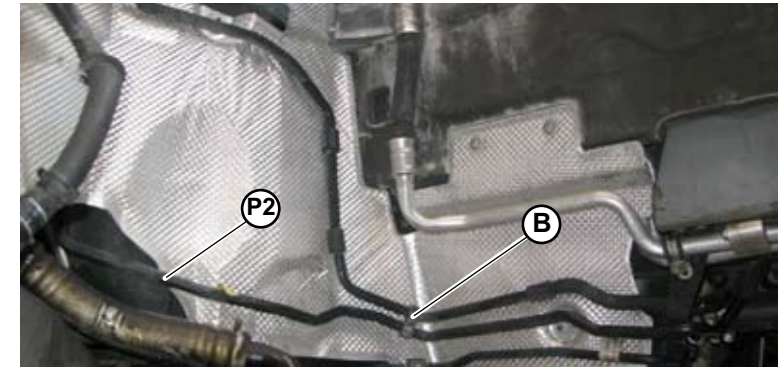

Fig.23
2. Release the front part of the **P2** return pipe from the clamp (**B-Fig.23**) securing it to the brake booster pipe.